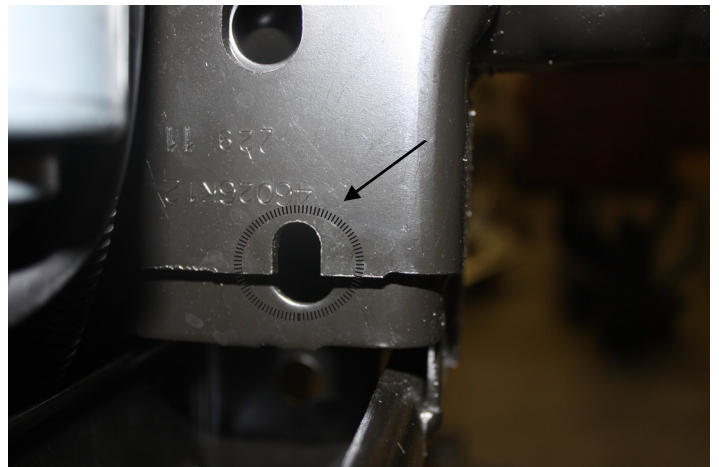
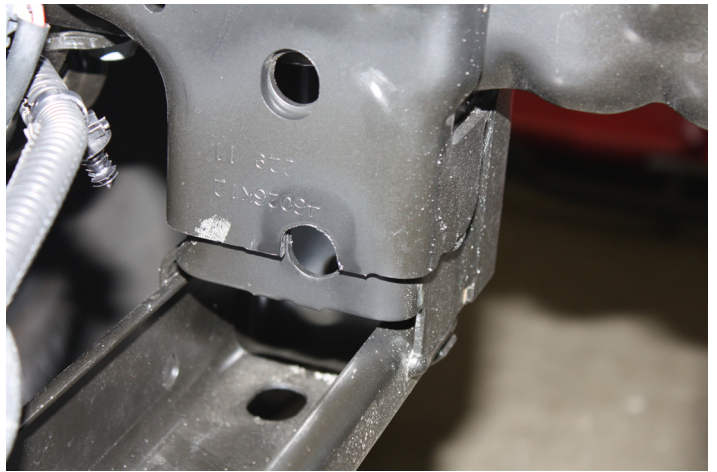

Figure 10
Figure 11
11. Use a grinder or file to enlarge the slot at the bottom of the factory canister bracket to match the frame hole behind it, about 5/8" diameter. Figure 10. Touch up raw edge with paint to prevent rust. Figure 11.